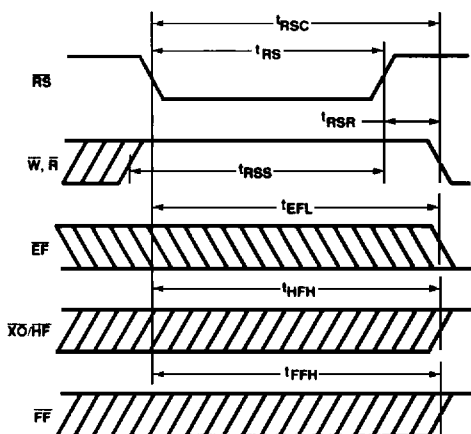

Figure 2. Reset Timing
Upon power up, the FIFO must be initialized with a Reset cycle. (See Figure 2.) The states of XI and FL are used during the reset cycle to determine the FIFO's mode of operation, as shown in Tables 1 and 2. For a valid reset cycle to occur, both the Read (\bar{R}) and Write (\bar{W}) signals must be HIGH t_{RSS} prior to and t_{RSR} after the rising edge of Reset (\bar{RS}). The reset cycle initializes the FIFO to an empty condition, signified by the Empty Flag (\bar{EF}) being LOW, active, and both the Half-Full (HF) and Full Flag (FF) being HIGH, inactive.